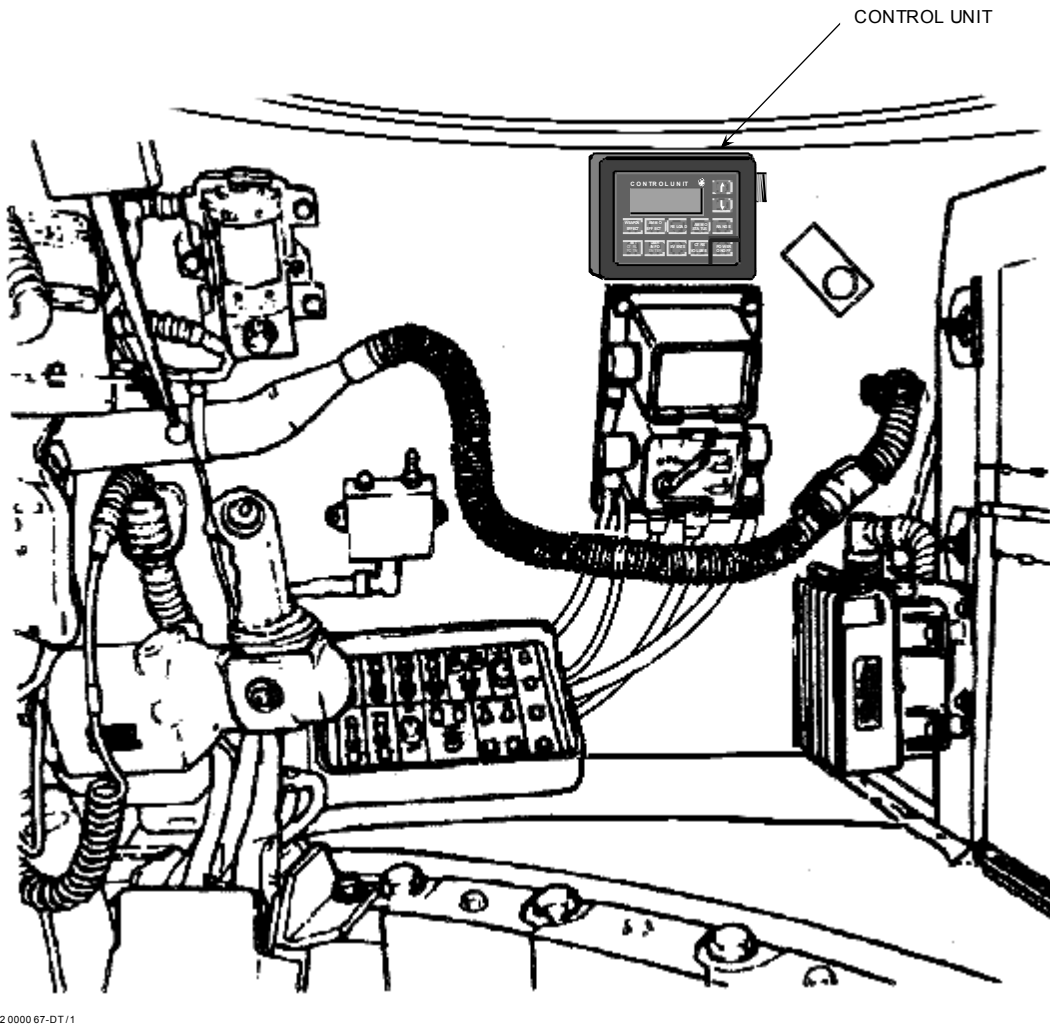

Figure 2-31. M1A1/M1A2 Control Unit (CU).
2.3.2.11 Control Unit (CU).
- e. Attach fastener tape to the wall in the commander's station. Mount the CU to the fastener tape and ensure that it is firmly seated. (See Figure 2-31.)